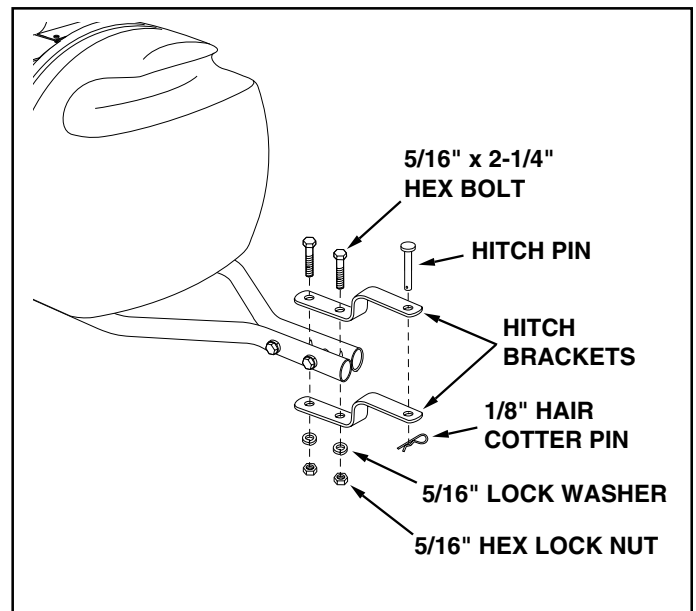

FIGURE 4
5. Assemble the two hitch brackets to the front of the hitch tubes using two 5/16" x 2-1/4" hex bolts, 5/16" lock washers and 5/16" hex lock nuts. **Do not tighten yet.** See figure 4.
6. Assemble the hitch pin to the hitch brackets and secure it with the 1/8" hair cotter pin. See figure 4.
Tighten the two bolts which fasten the hitch brackets to the hitch tubes. See figure 4.